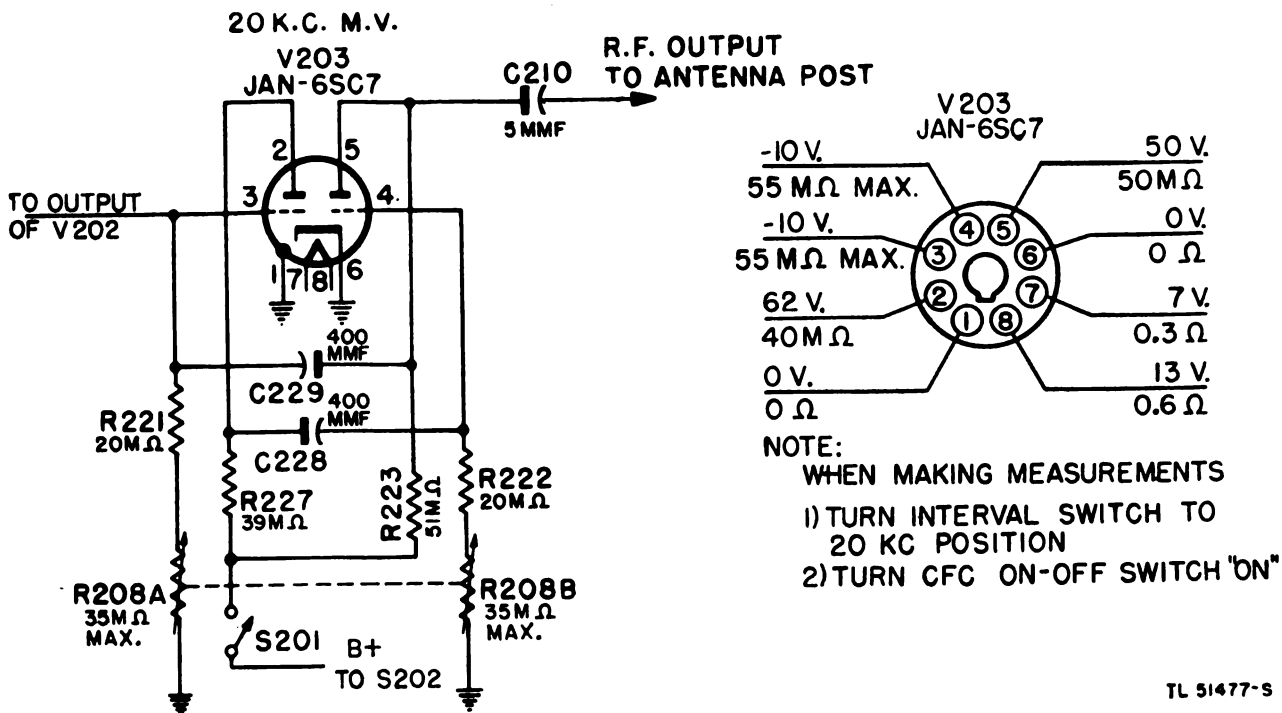

Figure 26. 20-kc multivibrator stage schematic, Radio Receiver BC-652-A.
a. STAGE DATA. (1) 20-kc multivibrator stage, shown in figure 26.
(2) Voltage and resistance values for socket terminals of Tube JAN-6SC7 (V203) to ground, shown on stage schematic.
(3) Parts data for 20-kc multivibrator stage, table XXI.
b. TROUBLE LOCATION. (1) *Tube check.* Remove the tube from socket. Test with the tube checker and replace with a new tube if necessary. When replacing the tube, see that it is seated firmly in its socket.
(fig. 26)